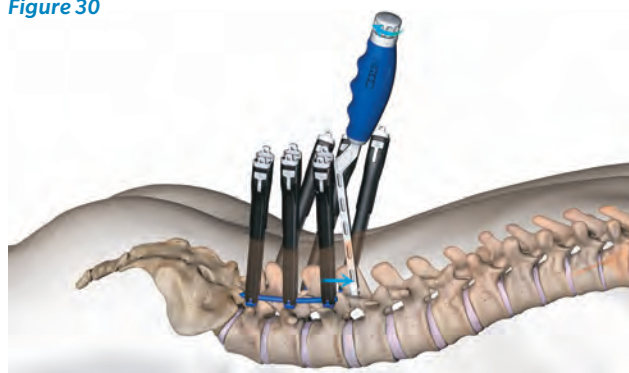

Figure 31
- Remove the rod inserter from the rod (Figure 31).